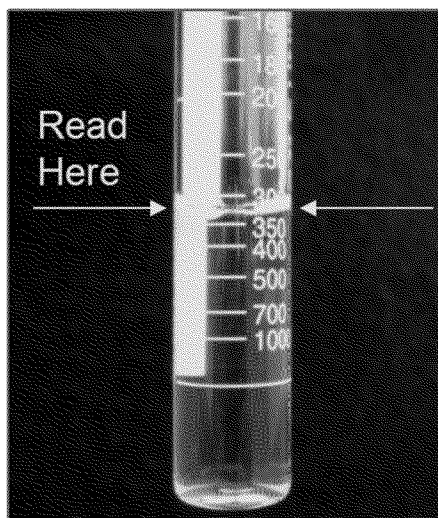

Figure 7. Reading the Liquid Level in the Ampoule
- k Hold the ampoule in a vertical position with the valve assembly point-up and read the scale at the center of the meniscus as shown in Figure 7. Record the results as mg/L of dissolved CO₂.